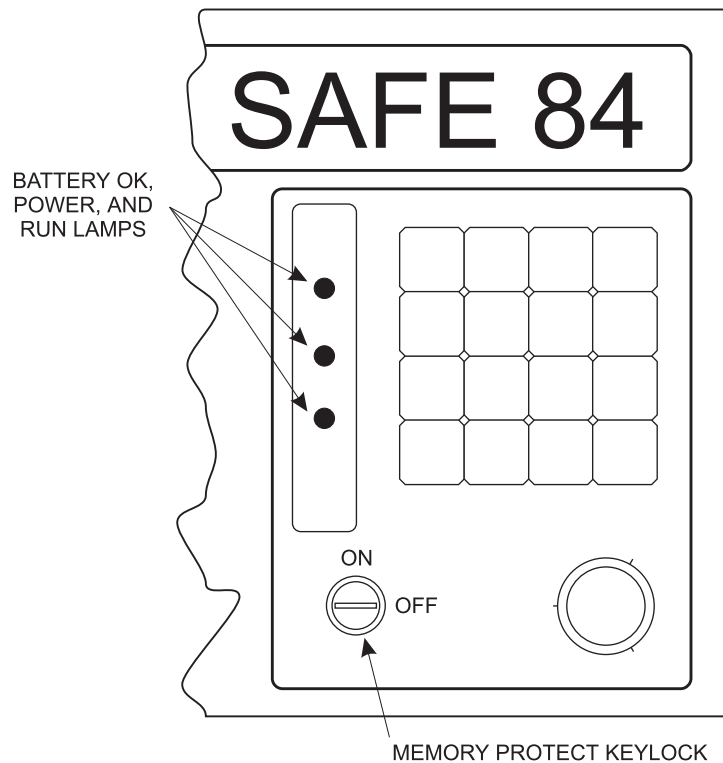

Figure 4-1
2. Turn off the MEMORY PROTECT KEYLOCK. *See Figure 4-1.*